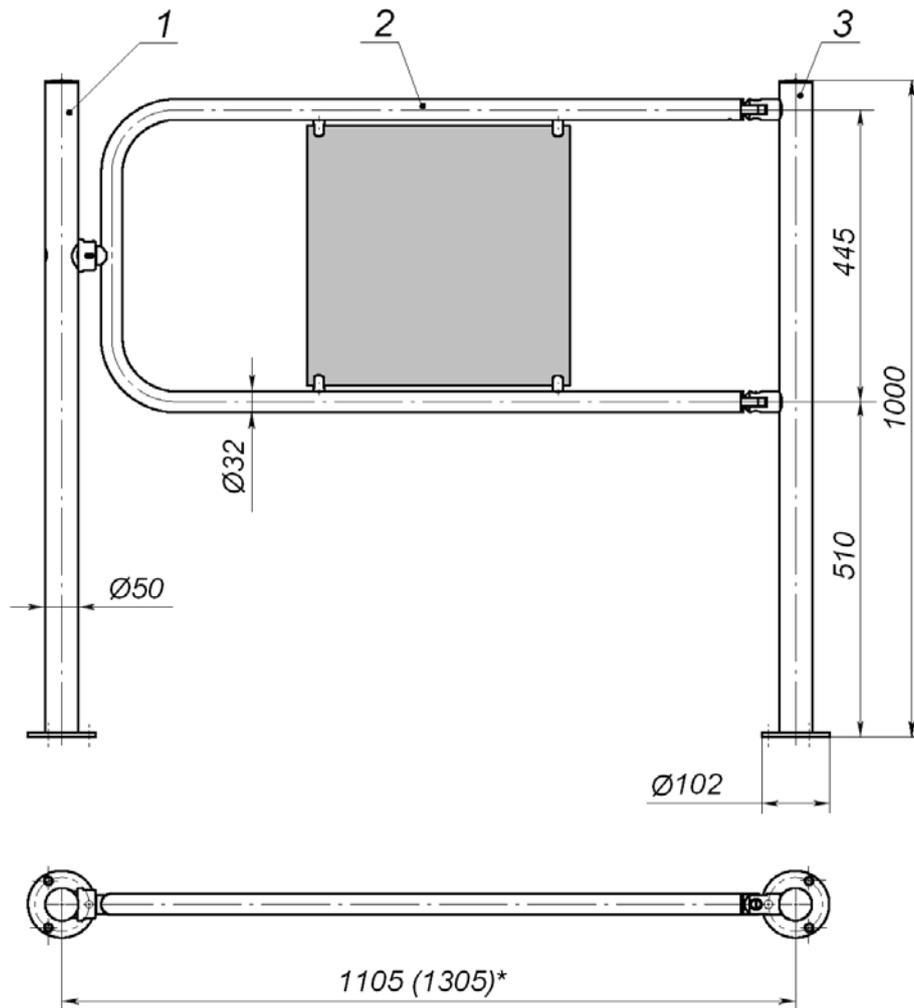

Figure 6 – Automatic rotary railing section with electromagnetic BD:
- **Rotary railing section**, designed to form passageways and provide emergency exit. There are two versions: the rotary section with mechanical BD (see Figure 4) and the rotary section with electromagnetic BD (see Figure 6).